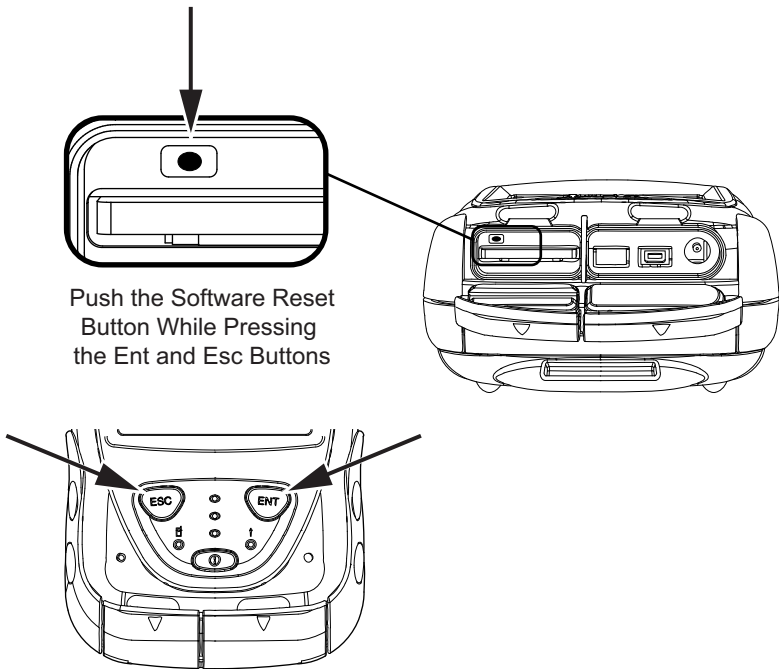

Figure 7-2. Resetting the Hardware
To perform a hardware reset (Figure 7-2 on page 7-5):
2. Simultaneously hold the ENT and ESC buttons while pushing the software reset button with the stylus pen for two or more seconds (Figure 7-2). The unit turns off.
2. Simultaneously hold the ESC and ENT buttons while pushing the software reset button with the stylus pen for two or more seconds (Figure 7-2 on page 7-5). The GRS-1 turns off.